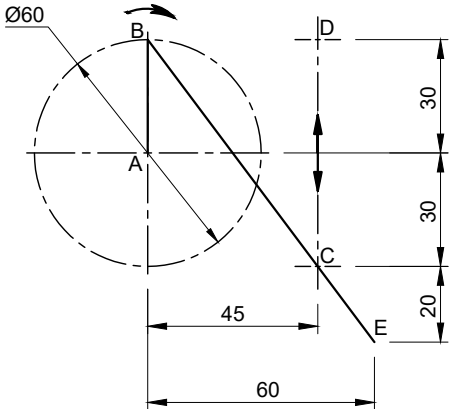

FIGURE 2:
- Figure 2 shows the schematic diagram of the drawing.
- Draw the given schematic diagram (FIGURE 2).